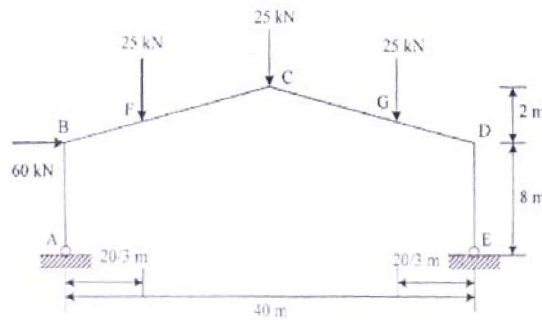

Fig. 4
- Q4)** Analyse the gable frames as shown in Fig. 4 by plastic method and determine the plastic moment m_p . [25]